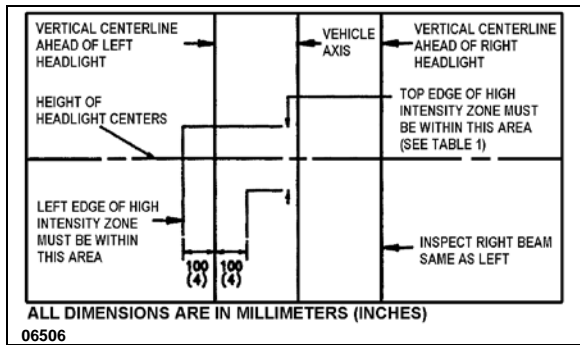

FIGURE 51: AIM INSPECTION LIMITS FOR LOWER-BEAM HEADLIGHTS
- The inspection limits in the vertical direction for low-beam headlights or the low beam of a dual-beam headlight, shall be as described in Table 1. In the horizontal direction, the left edge of the high-intensity zone shall be located from 10 cm (4 in) left to 10 cm (4 in) right of the vertical centerline of the beam. The viewing screen shall be located 7.6 m (25 ft) in front of the vehicle (Figure 51).